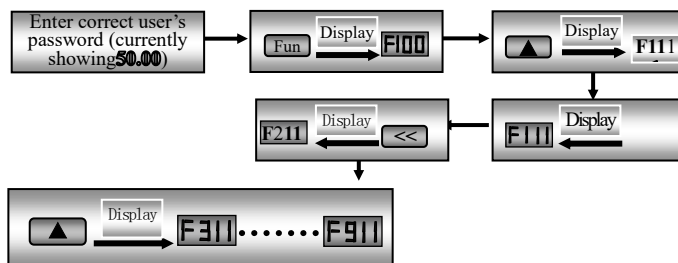

Fig 3-6 Switch over in a Code Group or between Different Code-Groups
e.g., when function code shows F111 and the one digit is flashing., press “▲”/ “▼” key, function code will keep increasing or decreasing by degrees within F100~F160; press “◀◀” key again, the 1 in the hundred place is be flashing. When pressing “▲”/ “▼” key, function codes will change circularly among the 18 code-groups, like F211, F311...FA11, F111..., Refer to Fig 3-6 (The sparkling “50.00” is indicated the corresponding target frequency values).